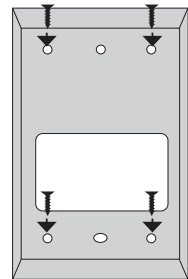

Fig. No. 5
3. Fix the keyboard holder on the wall using the screws. (see Fig. No. 5)